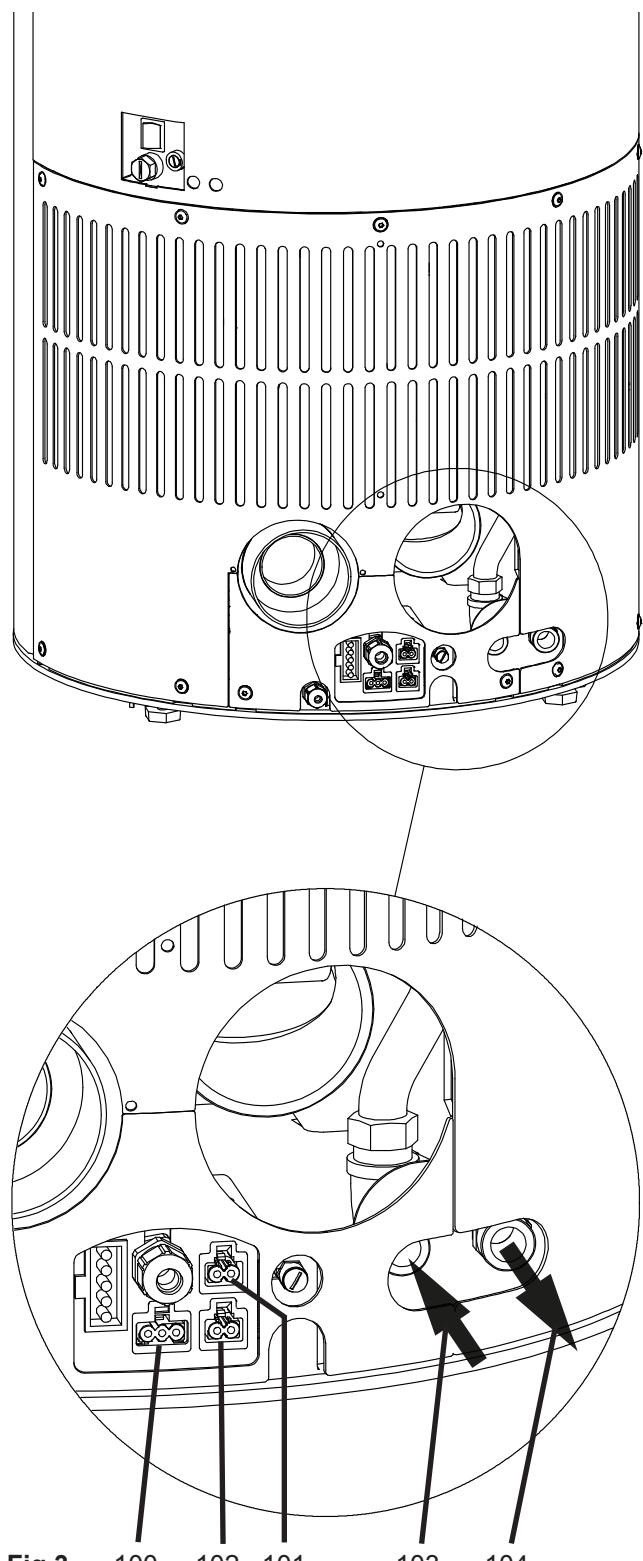

Fig.3 100 102 101 103 104
- After connecting the flow and return line (Fig.3, Pos.103+104) and filling the system with water, you need to bleed the system using the ventilating valve on the stove.
- Wire the included 3 pole plug with the L-PE-N phases to the pump (cable type: H05VV-F 3x0.75mm²) and insert the plug into the socket (Fig.3, Pos.100).
- Wire the buffer sensor above to the pastel blue plug in such a way that it matches the socket (Fig.3, Pos.101) and insert the plug into the socket.
- Wire the buffer sensor below to the light blue plug in such a way that it matches the socket (Fig.3, Pos.102) and insert the plug into the socket.